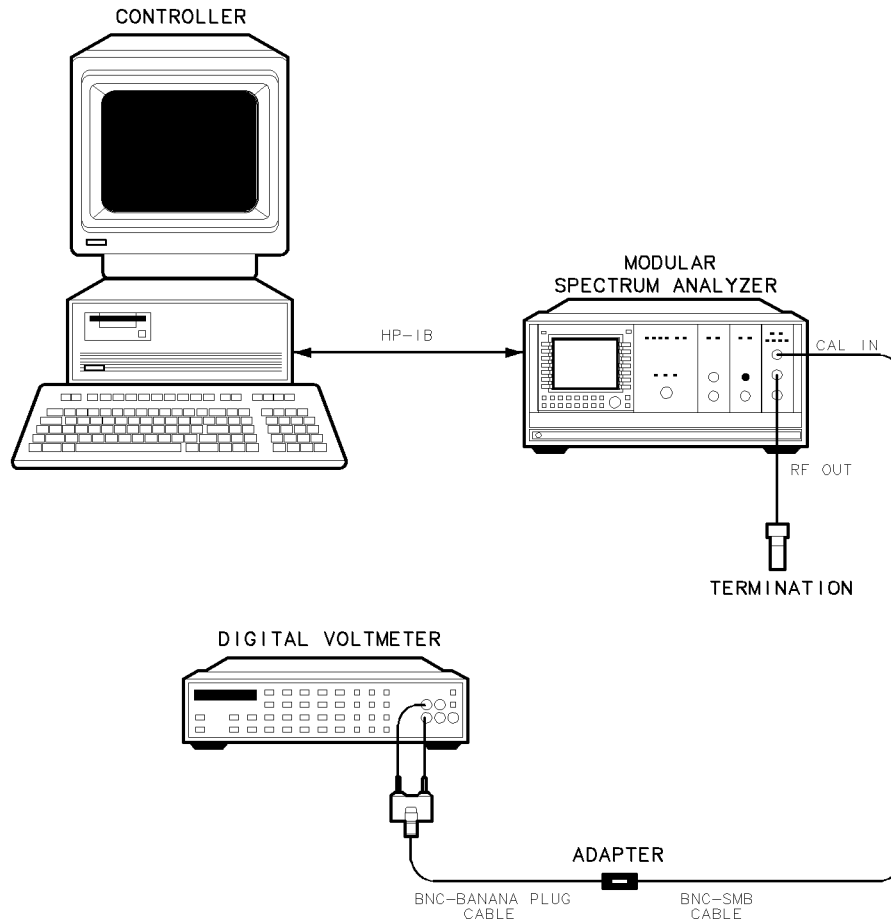

Figure 3-2. Calibration Switch Path Test Setup
1. Connect equipment as shown in Figure 3-2. Connect the DVM to the HP 70590A's CAL IN connector.